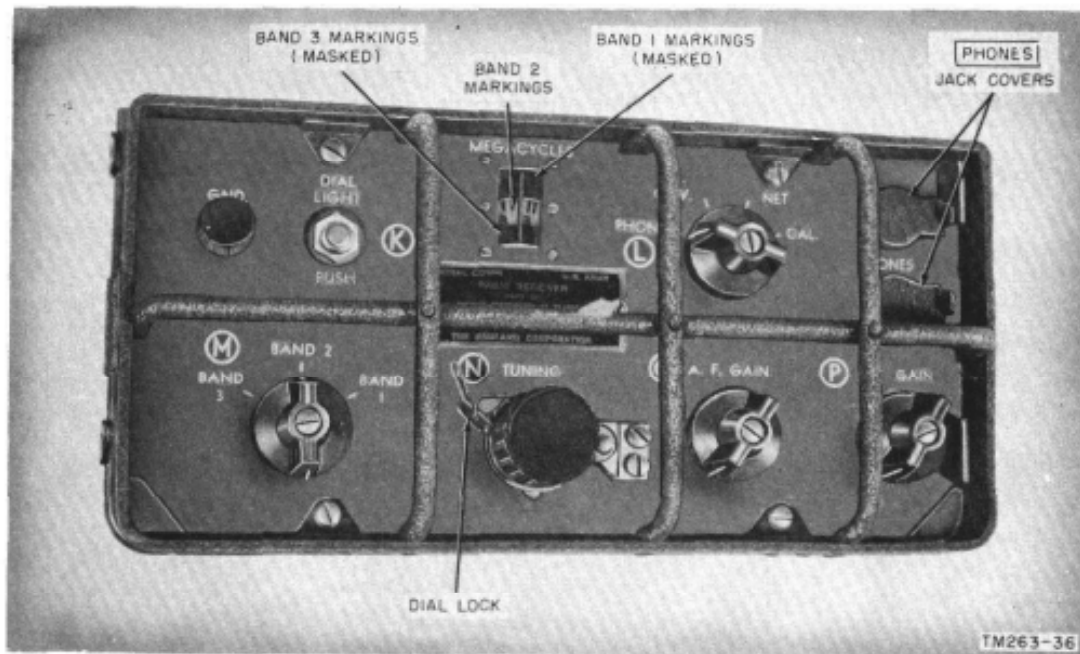

Figure 8. Receiver section of radio set.
9. Description of Receiver (fig. 8)